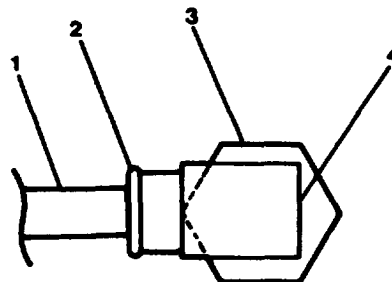
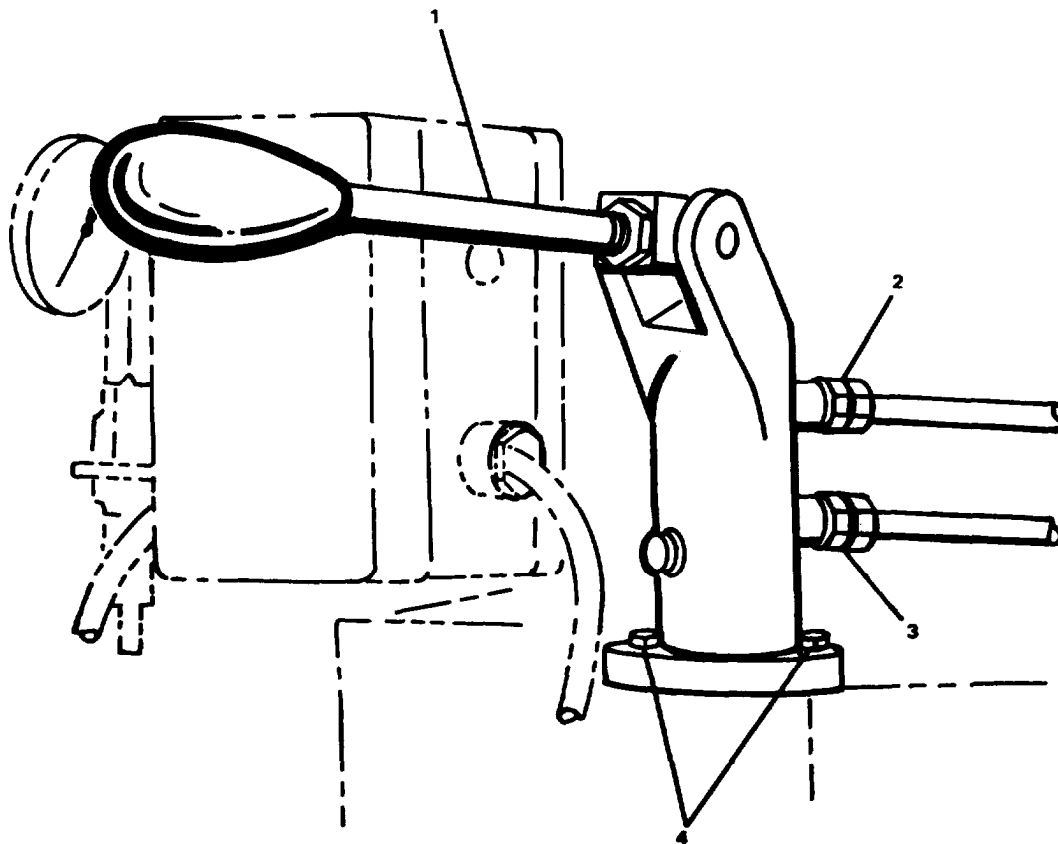
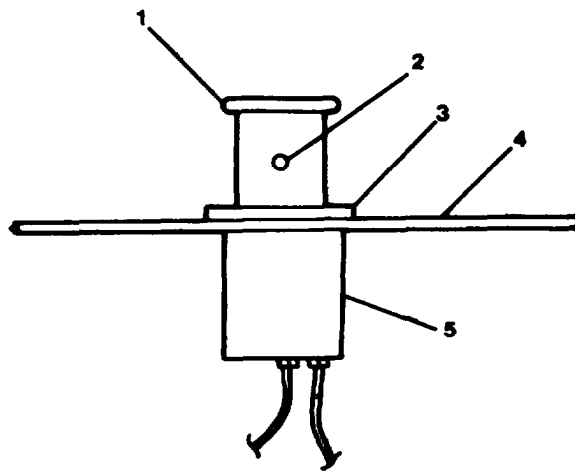
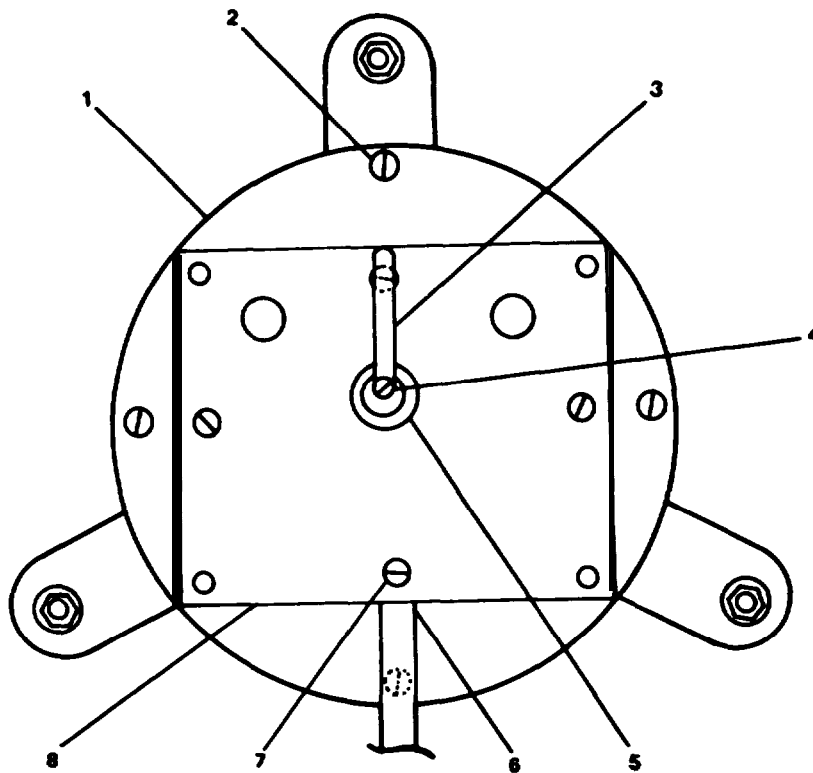

FIGURE 2-140. Level Switch. Removal.
FIGURE 2-143. Lever Switch.
FIGURE 2-144. Push Switch.
FIGURE 2-145. Rotary Switch.
(4) Remove rotary switch.
b. Remove Level Switch. (Bowthruster Engine) (FIGURE 2-140)
(1) Unscrew connector (2) and remove electrical cable (1).
(2) Unscrew hex head nut (3) and remove level switch (4).
- e. **Remove Lever Switch.** (Located on Waterjet power pack) (FIGURE 2-143)
- (1) Place utility pail under hydraulic lines at connections (2, 3).
- (2) Disconnect hydraulic lines. Cap or plug lines.
- (3) Remove four capscrews (4).
- (4) Remove lever switch (1).
- (5) Wipe up hydraulic oil leakages.
f. Remove Push Switch. (FIGURE 2-144)
- (1) Tag and disconnect electrical leads to push switch.
- (2) Loosen set screw (2) and remove knob (1).
- (3) Remove hex head nut (3).
- (4) Remove push switch (5) from pilothouse control console (4).
- g. Remove Rotary Switch. (Starboard Bulkhead) (FIGURE 2-145)
- (1) Remove round head screw (4) and lever (3).
- (2) Remove four screws (7) and cover (8).
- (3) Tag and disconnect electrical leads (6) to rotary switch.
- (4) Remove four round head screws (2) and rotary switch cover (1).
- (5) Remove rotary switch (5).
Repair at this level of maintenance is by replacement of rotary switch (4, FIGURE 2-145), level switch (4, FIGURE 2-140), terminal box (3, FIGURE 2-141), transmitter indicator (1, FIGURE 2-142), lever switch (1, FIGURE 2-143), push switch (5, FIGURE 2-144), rotary switch (1, FIGURE 2-145), push switches (3, 12, FIGURE 2-144), buzzer (10), lens (6), incandescent lamp (7), indicator light (8), cartridge fuses (19), and relays (21).
REPLACEMENTa. Replace Rotary Switch. (FIGURE 2-145)
- (1) Install rotary switch (5) through slot in rotary switch cover (1).
- (2) Replace cover and secure with four round head screws (2).
- (3) Connect electrical leads (6) and remove tags.
- (4) Replace cover (8) and secure with four screws (7).
- (5) Install lever (3) and secure with round head screws (4).
b. Replace Bush Switch. (FIGURE 2-144)
- (1) Install push switch (5) in slot in pilothouse control console (4).